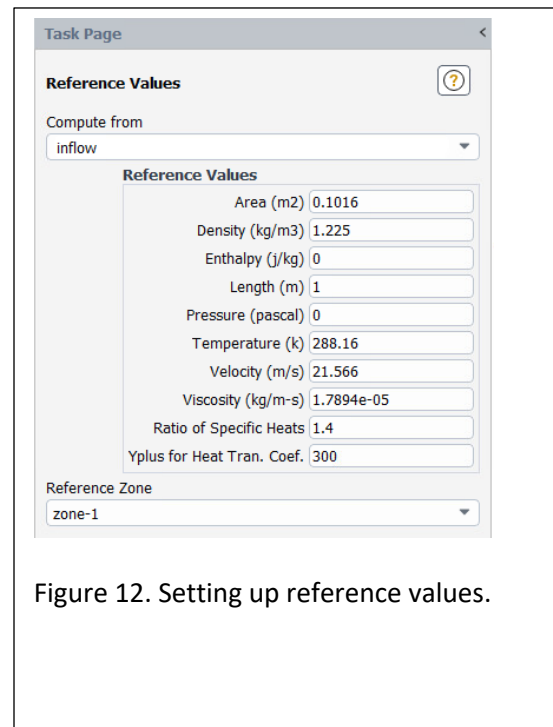

Figure 12. Setting up reference values.
2.10.2. In the **Task Page** pane, set Compute from to **inflow**, as shown in Figure 12.
2.10.3. Verify the rest of the parameters (e.g., density, velocity, viscosity) and update them if necessary. The values should be as in Figure 12.